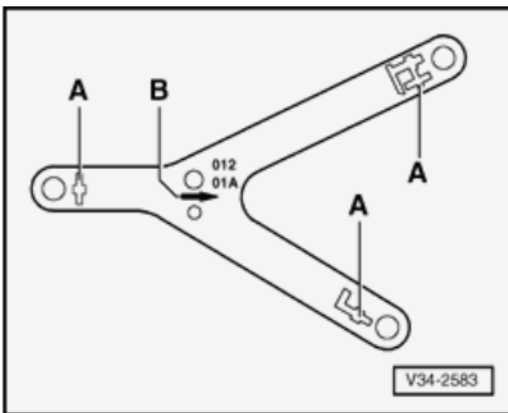

Fig. 125: Transmission Support 3282 Attachment Plate
- Position transmission jack under vehicle with arrow symbol -B- (Refer to **Fig. 125**) on adjustment plate pointing in direction of travel/vehicle.